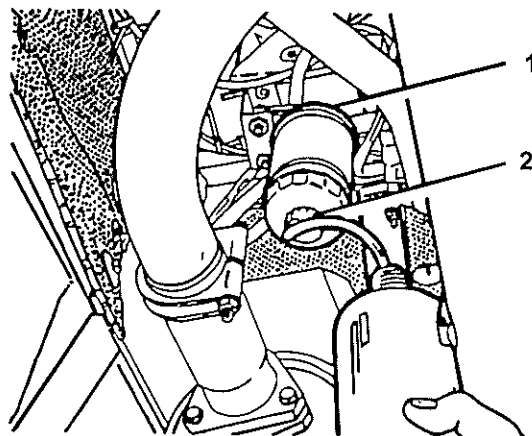

Fig 37 Water separator
- 101.1 Loosen the bleeder screw (see Fig 37 (1)) on the filler support a few turns.
- 101.2 Connect a hose onto the hose nipple of the drain plug and put the other end of the hose into a transparent container (2).